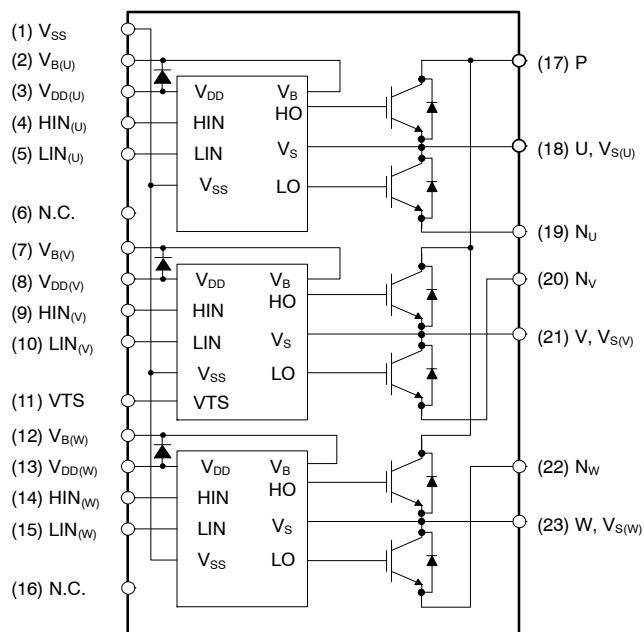

Figure 1. Pin Configuration and Internal Block Diagram (Bottom View)
- 14. About pin position, refer to Figure 1.